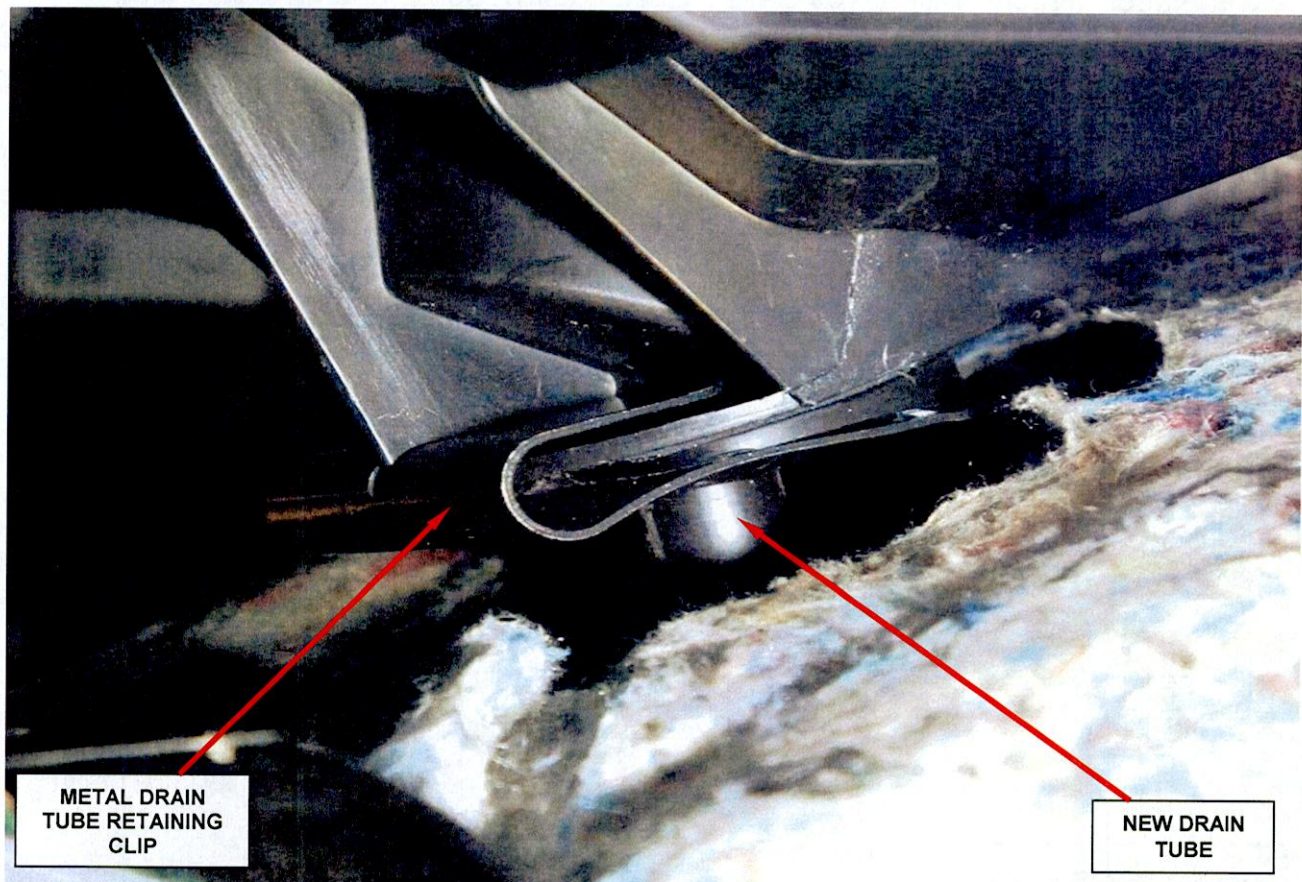

Figure 6 – Install Drain Tube Retaining Clip
19. Install the metal drain tube retaining clip as shown in Figure 6.